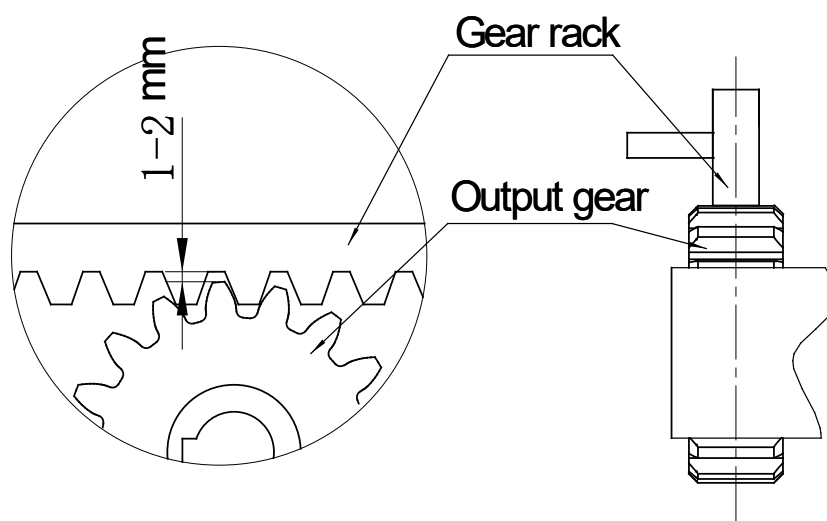

Figure 6
- 3) Manually move the gate (gate should be moved smoothly after motor unlocked) to check whether there is a fit clearance between rack and output gear, as shown in Figure 6.
The fit clearance of output gear and rack is shown in Figure 6 below: